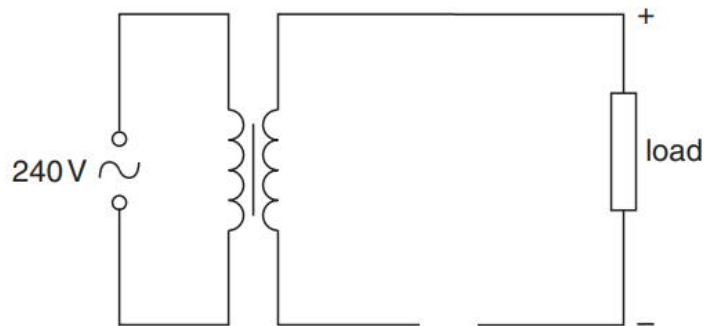

Fig. 5.2
The partially completed circuit diagram is shown in Fig. 5.2.
- (i) On Fig. 5.2, insert a symbol for the diode so as to produce the polarity across the load as shown on the diagram. [1]